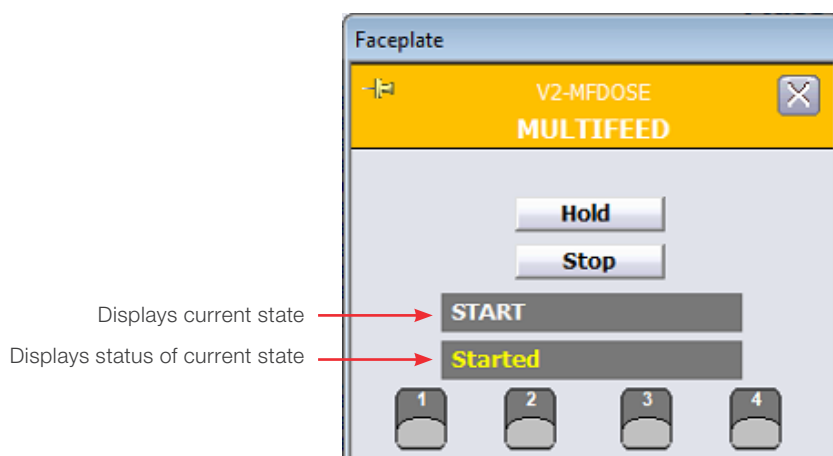

Figure 5.51. Hold button appears after clicking Start.
- When **Start** is clicked, the button will change to **Hold**, the current state will update to **Start**, and the status of the current state will cycle from **Starting** to **Started** (Figure 5.51).